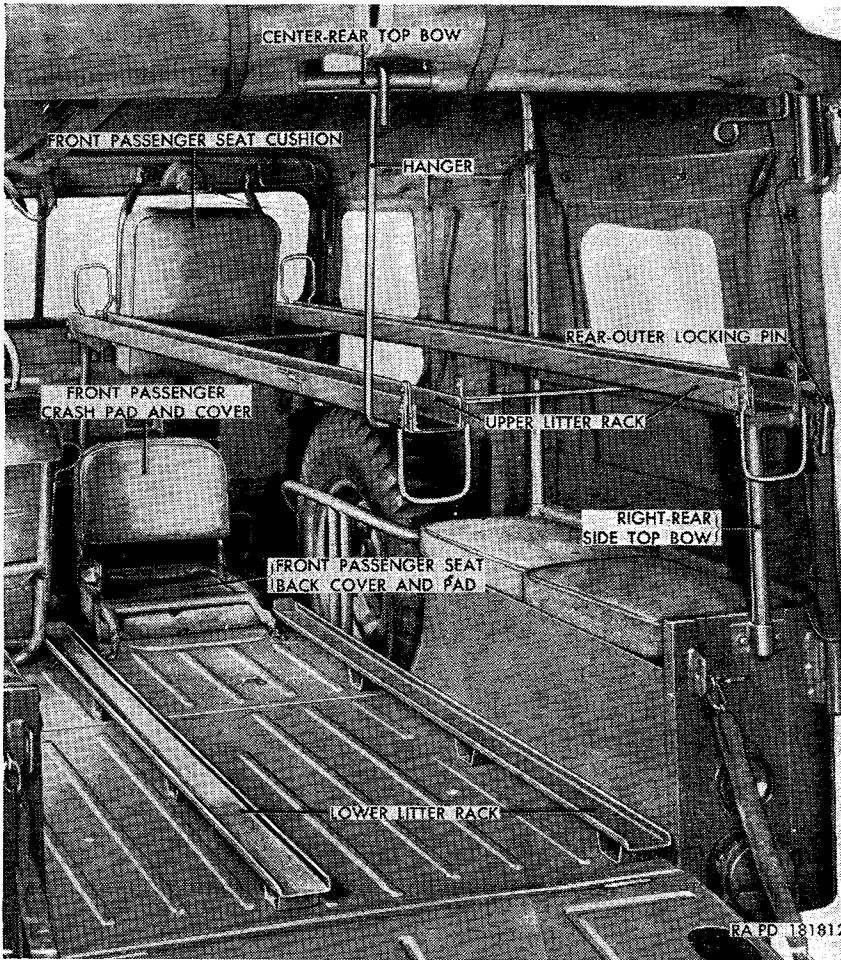
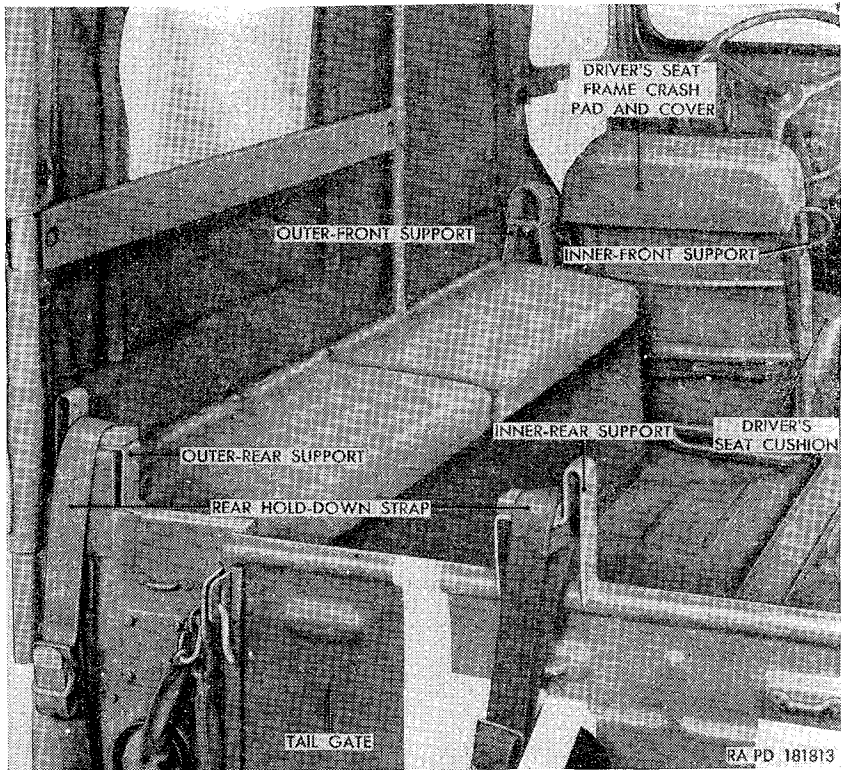
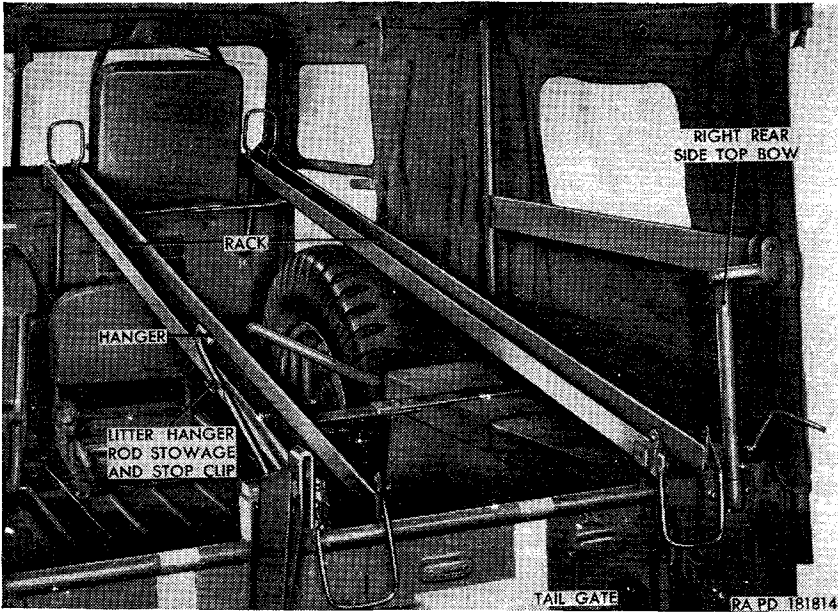

Figure 18. Lower and upper litter racks (M170)—installed.
Figure 19. Auxiliary litter supports (M170).
Figure 20. Upper litter rack (M170)—lowered position.
*a. General.* The lower litter rack (fig. 18) is secured to the floor on the right side of the body. The upper litter rack (fig. 18), a removable folding-type, is suspended by a hanger, supports, and retainers above the right wheel house. An auxiliary litter may be mounted above the left wheel house if desired. This auxiliary litter is mounted by supports (fig. 19) on the driver's seat, left wheel house, and tailgate. Two rear holddown straps are provided to tie down the rear of the auxiliary litter.
*b. Lowering Upper Litter Rack.* Withdraw the rear-outer locking pin (fig. 18) from the retainer on the upper litter rack and the support on the right-rear side top bow. Lift the upper litter rack hanger off the center-rear top bow and push hanger forward until it is engaged in the litter hanger rod stowage and stop clip (fig. 20). Slide the rack toward the center of the vehicle until the rack clears the support on the right-rear side top bow. Lower the rack until the rear end rests on top of the tailgate.
c. *Raising Upper Litter Rack.* Lift the rear end of the rack from its lowered position on the tailgate (fig. 20) to horizontal position. Move the rack to the right until it rests on the support on the right-rear side top bow. Pull the hanger rod free of the litter hanger rod stowage and stop clip and hook the upper end of the hanger rod on the center-rear top bow. Lock the rack to the support on the right-
rear side top bow by inserting the upper litter rack rear-outer locking pin (fig. 18) through the retainer holes on the rack and the support holes of the bow.
*a. General.* The vehicle is equipped with a driver's seat, a front passenger seat, and four wheel house cushions that serve as seats for rear passengers. The rear of the driver's seat is equipped with the driver's seat frame crash pad and cover (fig. 19) for the patient's head protection when the auxiliary litter is being used. The driver's seat back can be folded forward to provide accessibility to the patients from the left side of the vehicle. The front passenger seat is so designed that it can be used either as a passenger seat or in crash pad
- (3) Unfasten the passenger seat stowage strap, secured to the front passenger seat cushion (fig. 18), from the upper litter front support. Unfasten the passenger seat stowage strap, secured to the footman loop on the instrument panel, from
- (1) Proceed as instructed in *d*(1) above.
- (2) Engage the front passenger seat frame pivot pins of the seat cushion (fig. 18) in the slots of the brackets mounted at the top of the windshield frame. Fasten the passenger seat stowage strap, secured to the seat cushion, to the upper litter front support. Secure the passenger seat stowage strap, fastened to the footman loop on instrument panel, to the frame of the seat cushion.
- (3) Proceed as instructed in *d*(3) above.